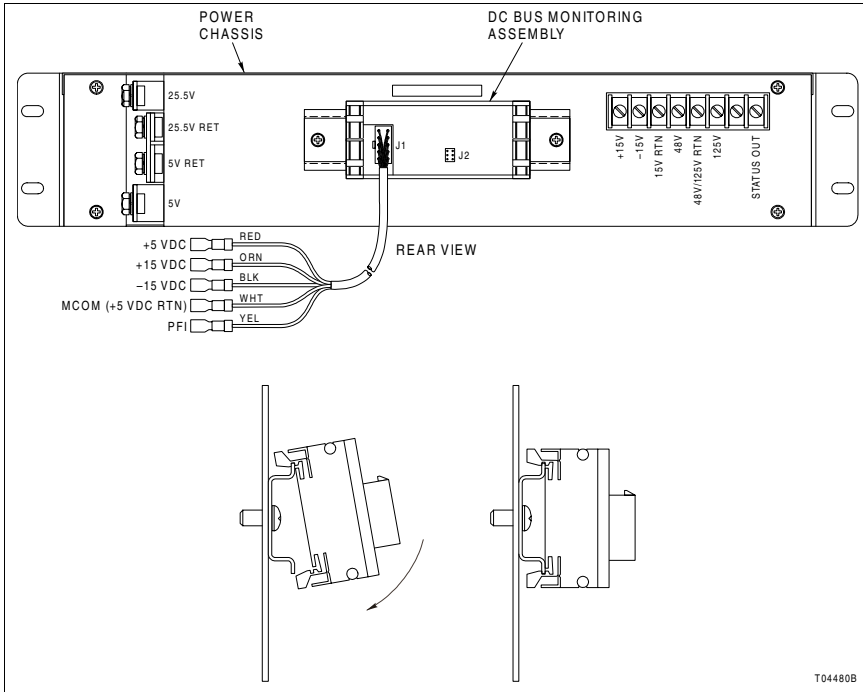

Figure PR8-3. DC Bus Monitoring Assembly Installation
- 8. Attach the DC bus monitoring assembly to the DIN rail on the rear of the power chassis and press the locking devices into place as shown in Figure PR8-3.
- 9. Refer to Figure PR8-3 and connect the wires to the DC bus bar and the cable connector to J1.